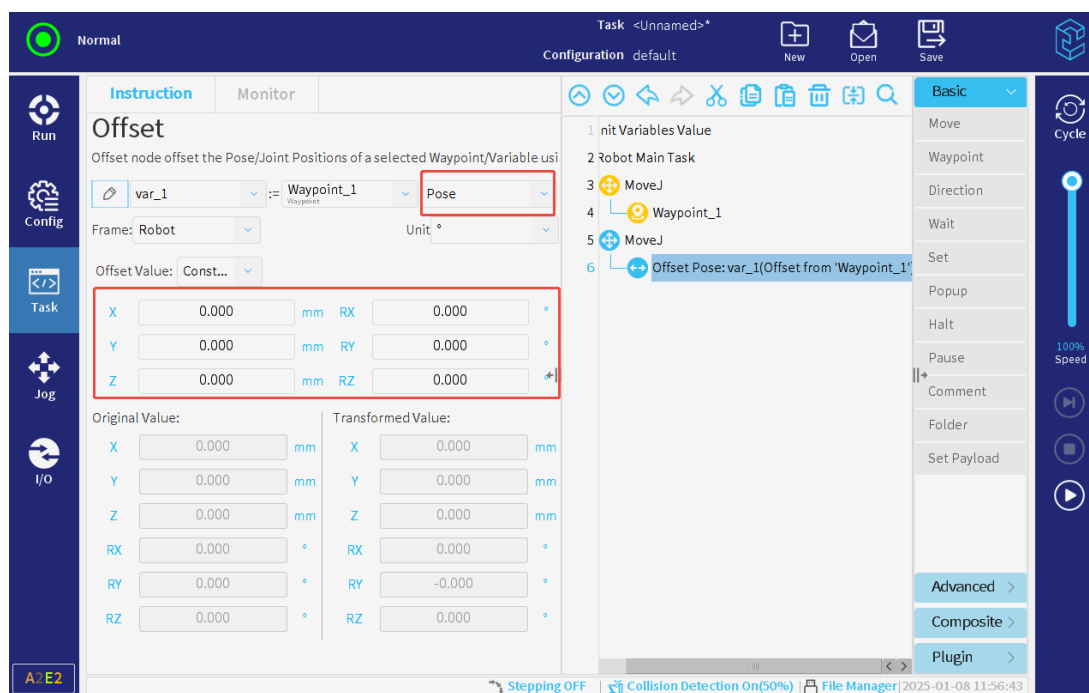

Figure 3-112 : Offset Pose
- The interface of offset based on the pose is illustrated in **Figure 3-112**.